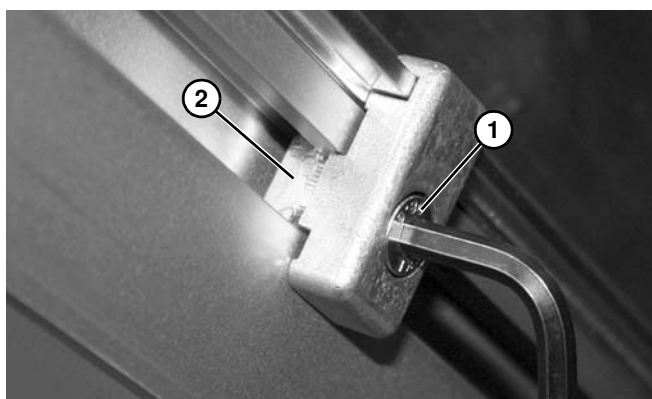

Figure 18
2. Tighten screw (**Figure 18, item 1**) making sure t-bar (**Figure 18, item 2**) rotates and engages inside of t-slot.